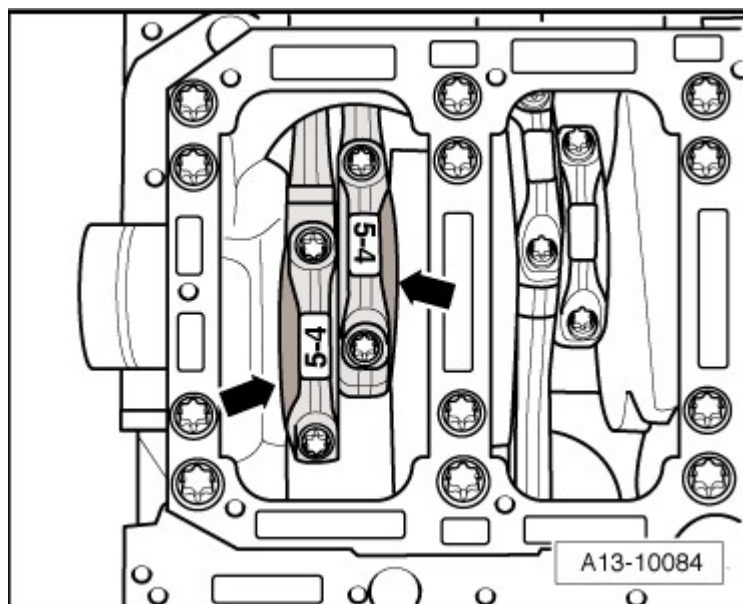

Fig. 19: Connecting Rod, Installed Position
- Installation position: Note the casting marks -A- and **Fig. 19**